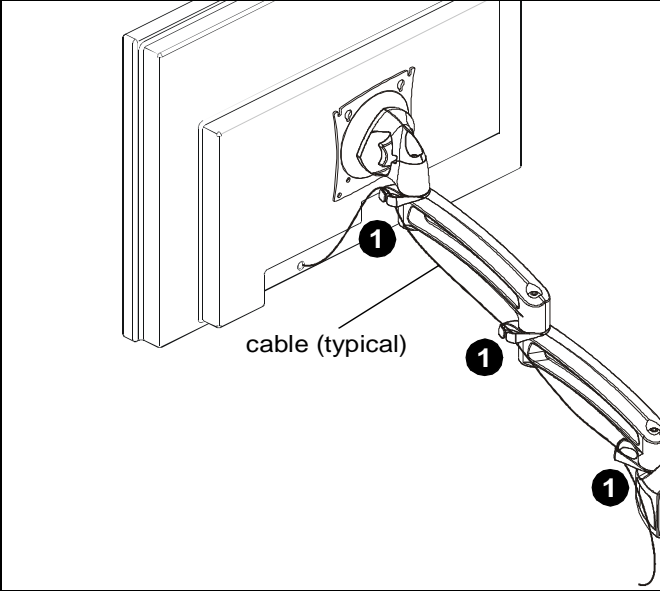

Figure 6
- 1. Route cables through cable management channels. (See Figure 6)